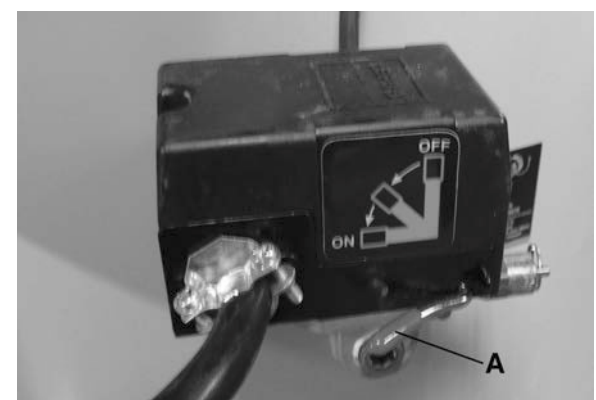

FIGURE 6
- 5) Move the pressure switch lever (A) Fig.6 to "ON/AUTO". The compressor will start.